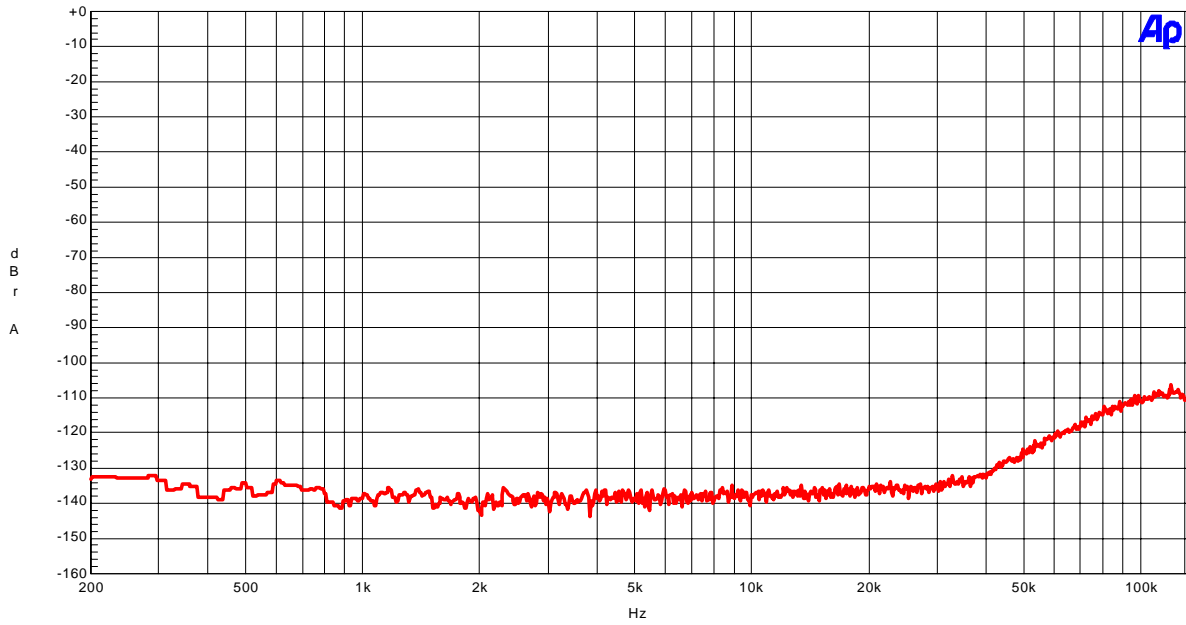

Figure 14. FFT (outband noise: fs=44.1kHz; no signal input)
- Figure 14. FFT (outband noise)